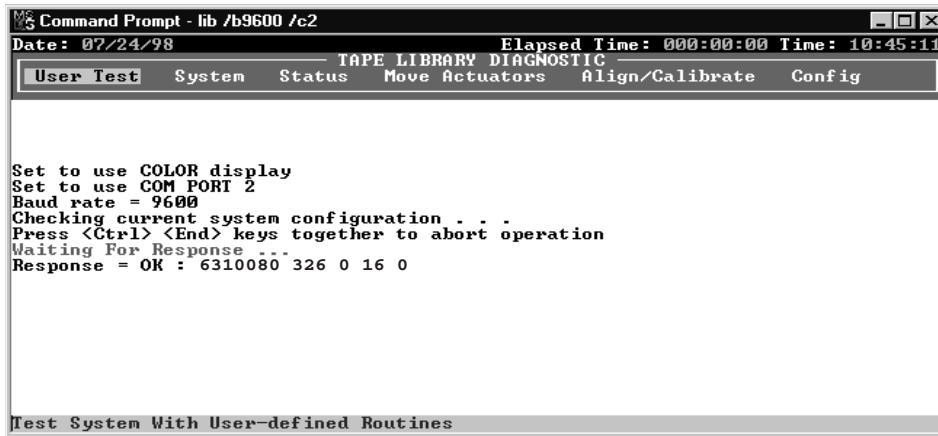
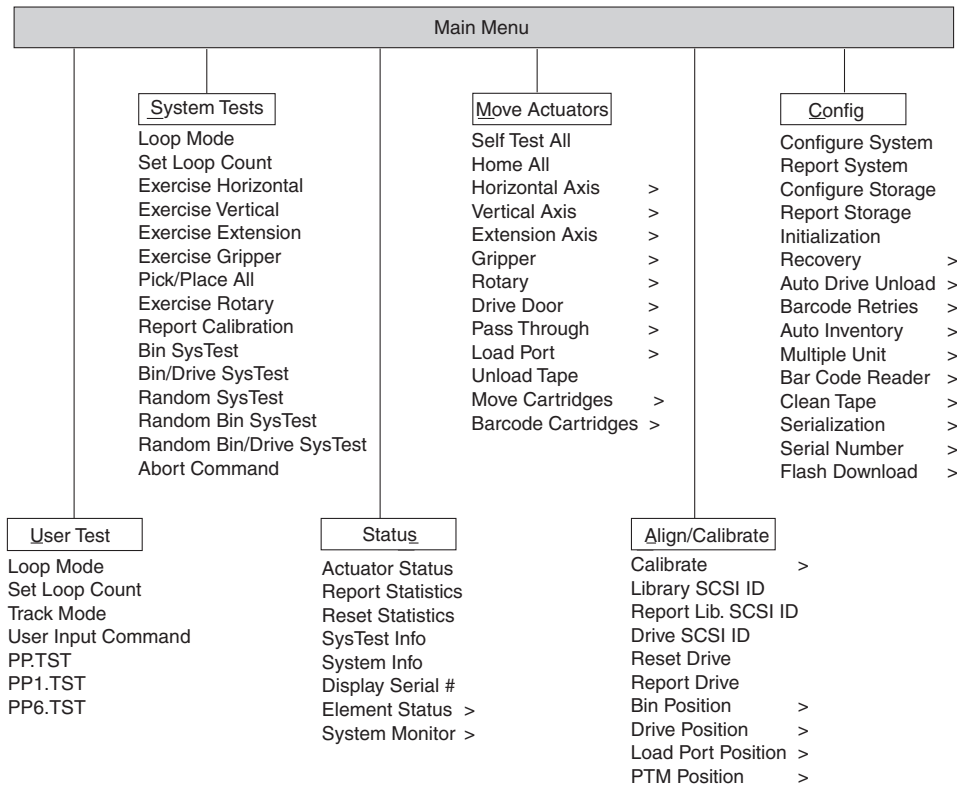

Figure 6-1. Main menu
Figure 6-2. Diagnostic software menu options
The diagnostic software options are described in the following sections in the order in which they appear in the Main menu. The listing begins with the User Test menu and ends with the Config menu. Figure 6-1 shows the Main menu screen and Figure 6-2 shows the Diagnostic menu structure. An arrow (>) to the right of an option in a drop-down menu list indicates that a sub-menu exists.
The Main menu screen displays six categories of diagnostic functions (see Figure 6-1).
2. When the category is highlighted, press the **Enter** key to select it. A drop-down menu appears listing the available options (see Figure 6-2).